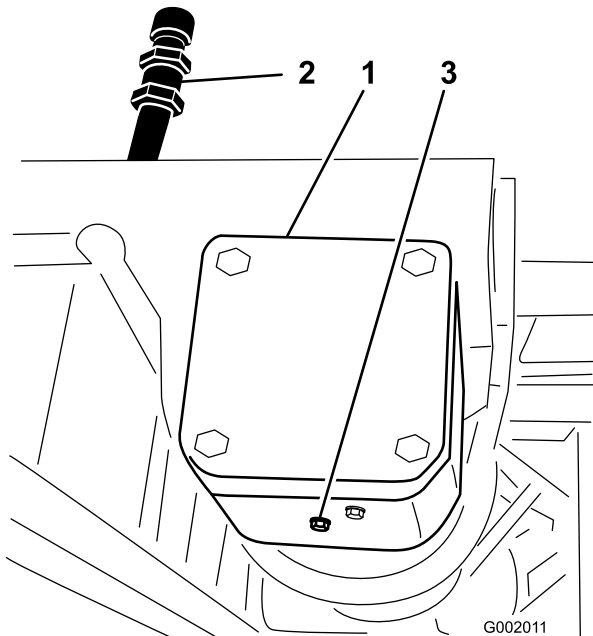

Figure 71
2. Place a pan under the drain plug on the pump drive gear box (Figure 71).
3. Remove the fill plug and drain plug (Figure 71), allowing the oil to drain into the pan.